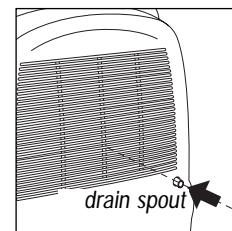

fig. 2
- Drill the inside of the drain spout using a small drill bit. (Fig. 2).